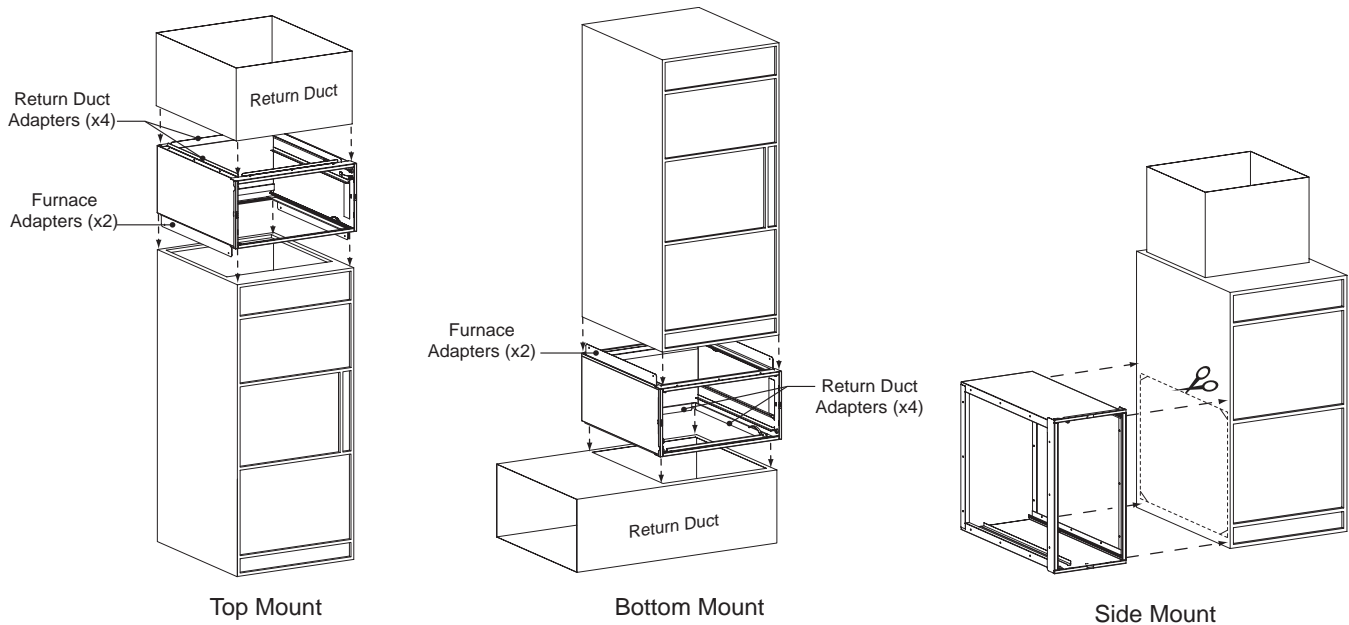

Fig. 4 - Mounting Perfect Air™ Purifier Cabinet
- Position the cabinet between the furnace and return air duct (see Fig. 4). A transition duct may be required.